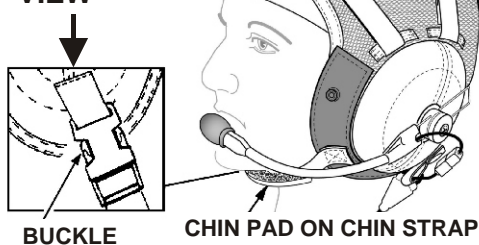

Figure 4. Chin Strap and Nape Strap
3. Adjust and fasten the nape strap (**Figure 4**) for a snug, secure fit at the nape.
4. Attach the chin strap side-release buckle (**Figure 4**). Adjust the chin strap for a snug secure fit, and slide the chin pad until it is centered under your chin.